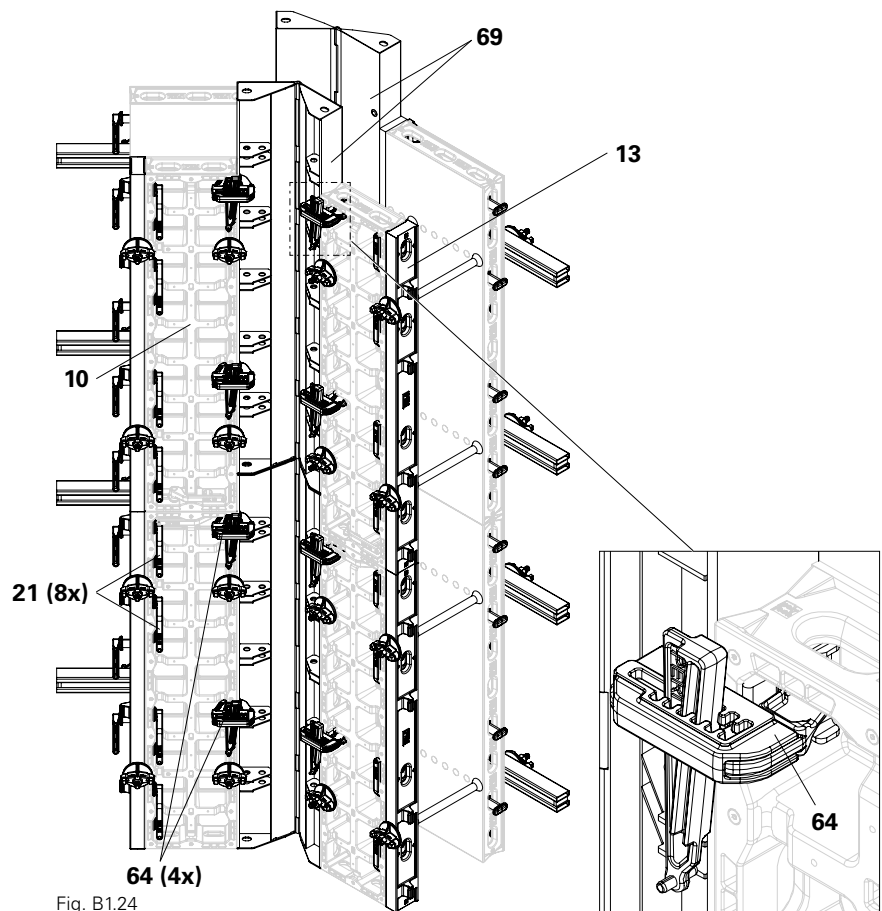

Fig. B1.24
Four DUO couplers (21) must be installed for each DUO DP 135 panel (10) along the vertical joint. (Fig. B1.24) If the DUO couplers (21) get in each other's way, then they will need to be offset from one another on the left and right formwork side.